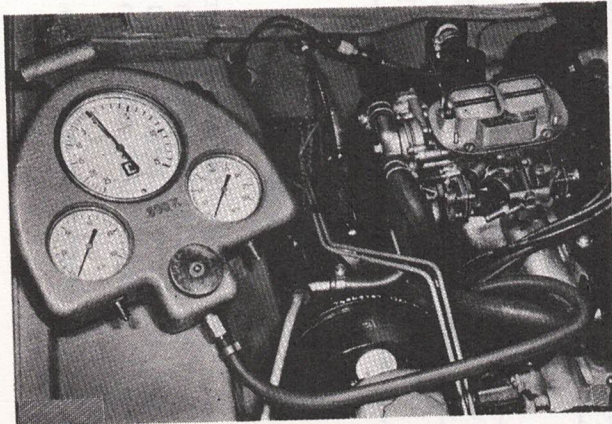

Fig. 5. Pressure gauge connected to fuel pump for pressure check.
5. Check pump delivery pressure. Fig. 5
Start engine and record pressure at idle speed, momentarily race engine and again note pressure. Refer Fig. 5.